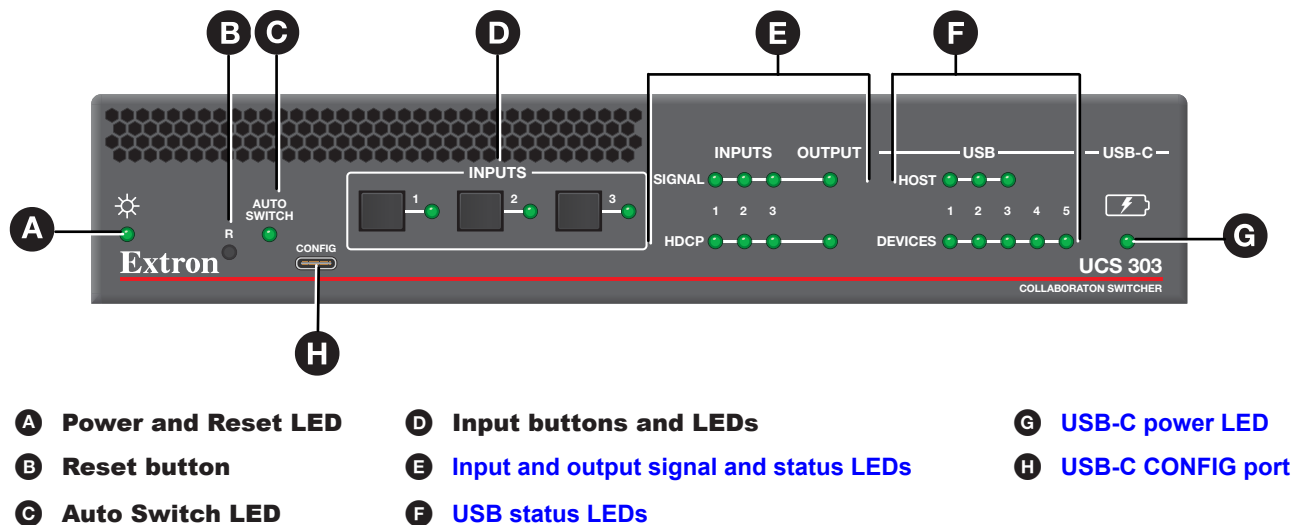

Figure 3. UCS 303 Front Panel
- **Product Configuration Software (PCS)** — Extron PCS is available at www.extron.com. Download and install the latest version to a PC connected to the switcher either via Ethernet or the front panel USB CONFIG port (see figure 3, **A**). For full instructions while PCS is running, press <F1> on the keyboard, click the ? button in PCS, or select the **Help File** option from the PCS Device Tab menu to view the UCS 303 Help File.
- A Power and reset LED** — Lights when the unit has power. While the R (reset) button (see figure 3, **B**) is pressed and held, this LED blinks every 3 seconds to indicate the level of reset that is initiated if the button is released and momentarily pressed again at that point.